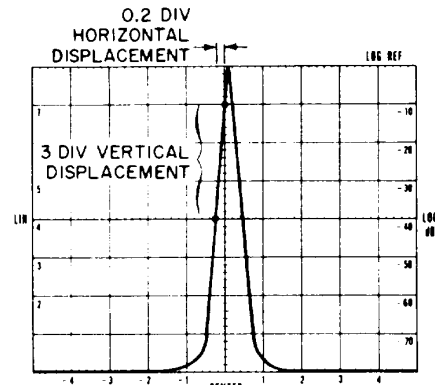

Figure 4-10. Demodulation Sensitivity measurement
4. Refer to Figure 4-10. Tune FINE TUNE so that the upward slope of the display intersects the CENTER FREQUENCY graticule line one division from the top.